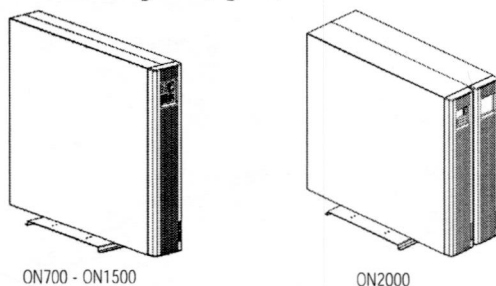

Fig. 13: Vertical Floor Standing UPS
3. Lift the top of the UPS to stand the unit onto its stabilizing feet (fig. 13).